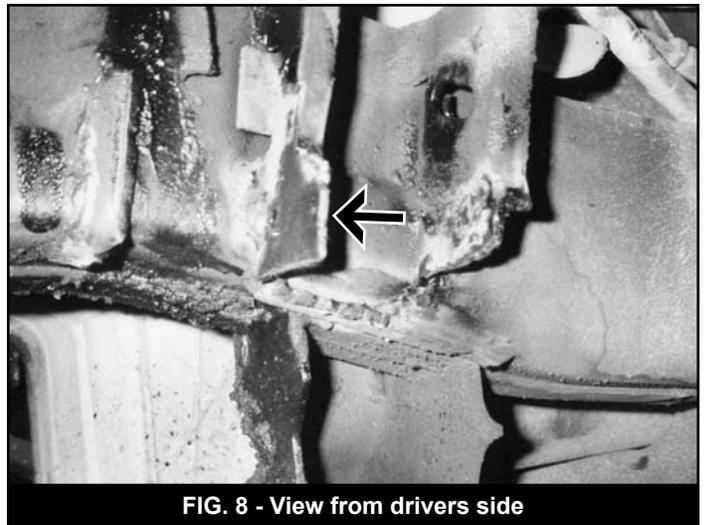

FIG. 8 - View from drivers side
21. On the inside of rear upper A-arm pocket, there is a plate welded in place that protrudes into the pocket. This plate must be removed to create a flat internal service. (Fig. 8)